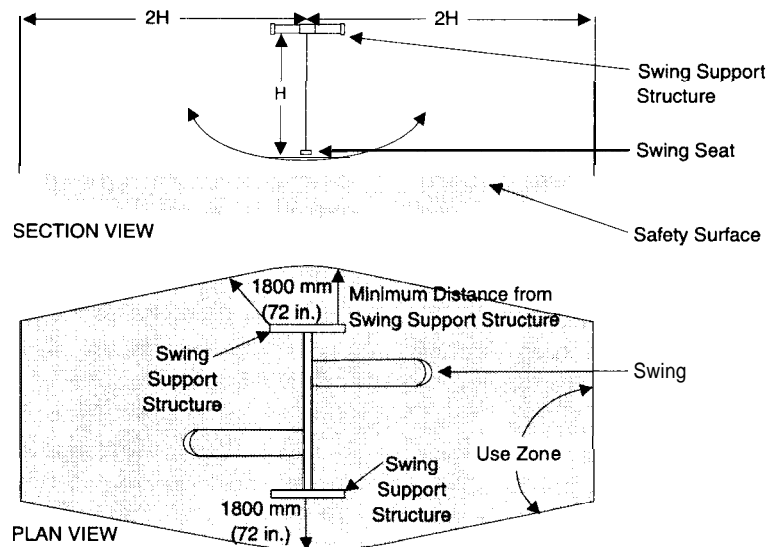

Figure 10-30. Swing Use Zone
c. Use Zone. A use zone equal to two times the height of the swing pivot point will be provided. The use zone extends both in front of and to the rear of the suspending beam for a width at least as wide as the beam (fig 10-30). Also, a 1800 mm (72-inch) use zone will be provided on both sides of the swing support structure. When two swings are located adjacent to each other, the swings may share the 1800 mm (72-inch) use zone at the side.